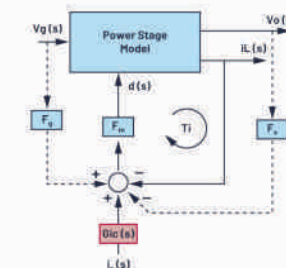
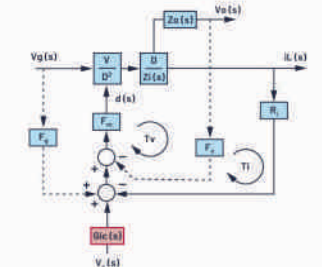

Figure 5. Proposed modified average model for current-mode control.
Figure 6. Block diagram of the modified average model for a buck converter.
R. W. Erickson's model gives power supply designers excellent physical insight, but it is not accurate up to half the switching frequency. In order to extend the validation of the model to the high frequency range, a modified average model (see Figure 5) is proposed based on the results of discrete-time analysis and sample-data analysis.
$G_{ic}(s)$ of the model shown in Figure 5 can be derived:
where ω_c is the crossover frequency of the inner current loop T_i as shown in Figure 5, with the values ω_c of various topologies derived and shown in Table 1.
In Figure 5, we treat the F_v feedback loop and i_L feedback loops in parallel. We could also draw the F_v feedback loop as internal to the i_L feedback loop. A complete buck converter model with the added $G_{ic}(s)$ stage is shown in Figure 6.
A 4-terminal model is built based on the modified average model shown in Figure 5. This 4-terminal model can be used to analyze any PWM topology for DC and small-signal characteristics using a standard electronic circuit analysis program, such as the free LTspice, in closed-loop operation.